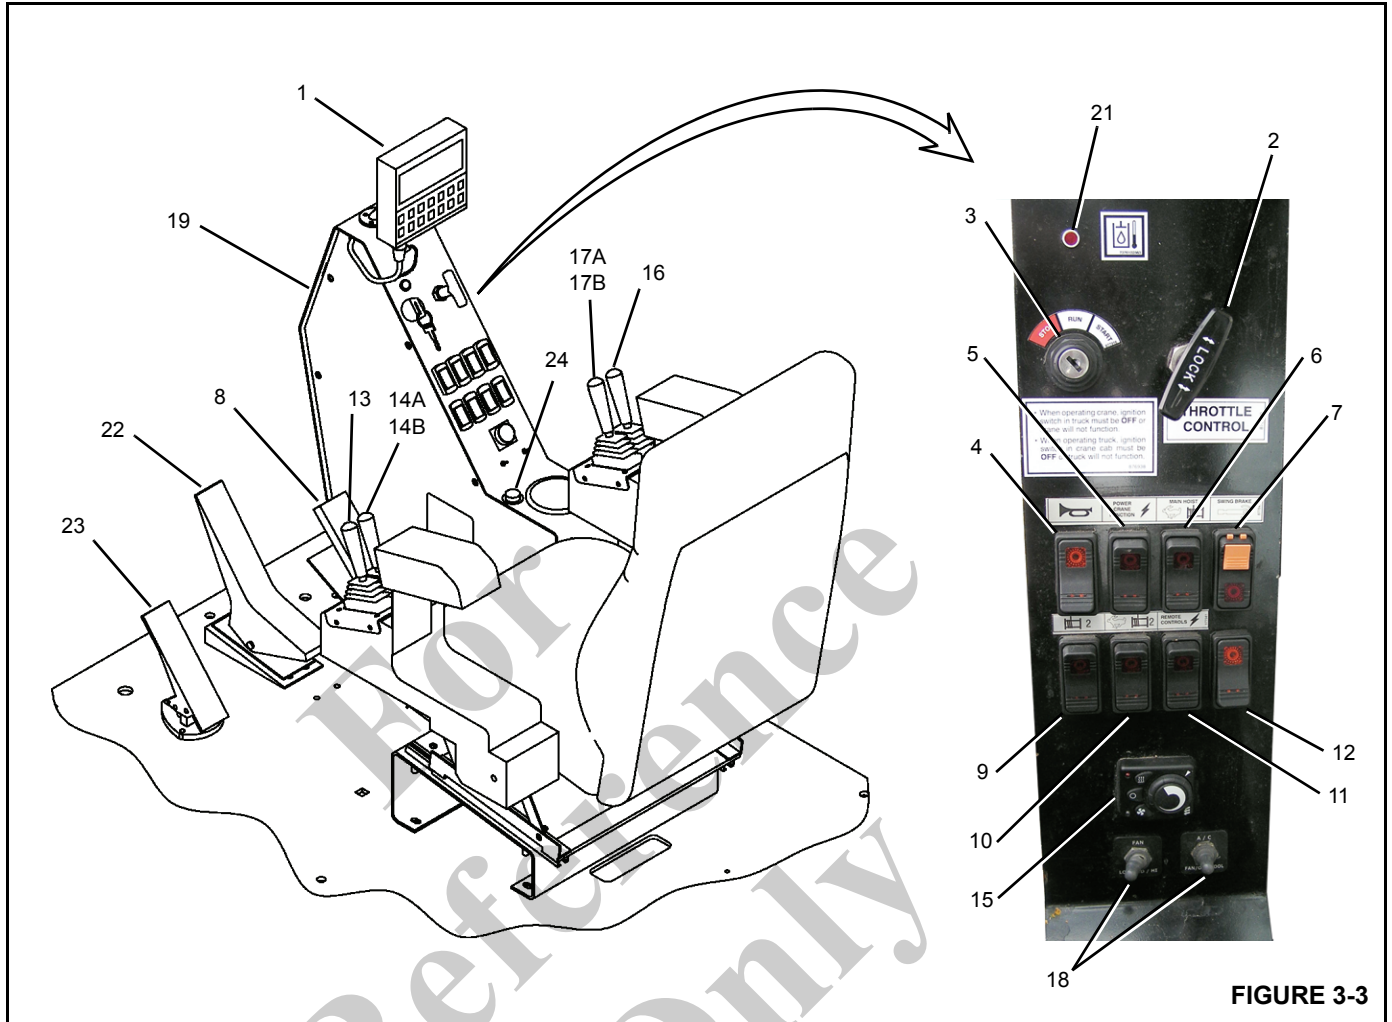

FIGURE 3-3
The optional secondary level indicator is located in the crane cab (24) (Figure 3-3) and is installed when the optional handheld outrigger control for the crane cab is purchased.
The crane controls are located in the crane cab and are used for all crane functions. See (Figure 3-3) for crane cab item number (#) identification. For best control response, run the engine at governed RPM when operating the crane.
The cab climate controls (15, 18) (Figure 3-3) are used to adjust the heating and air conditioning for operator comfort.